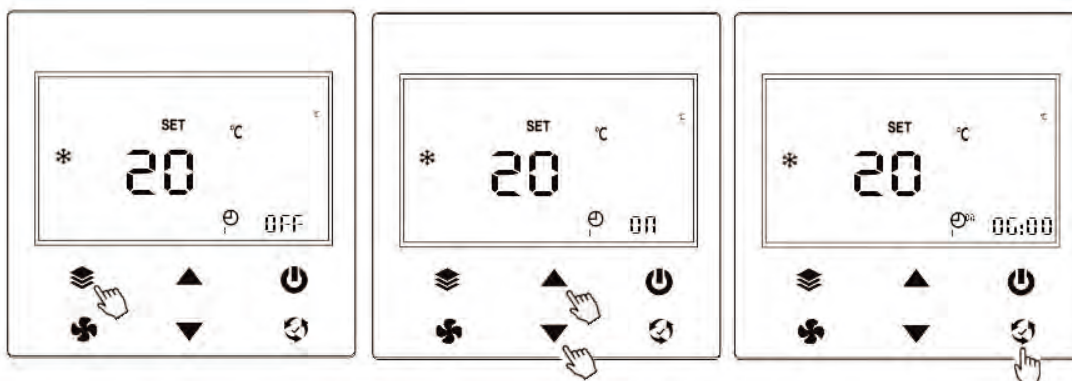

Figure 8. Select to enable or cancel time period timing by short pressing  or
2. After adjusting to the timing function, short press  or  to select timing to enable or disable. If the timing is canceled, the timing function of the time period will not be enabled. Display OFF means disable, display ON means enable, as shown in Figure 8: